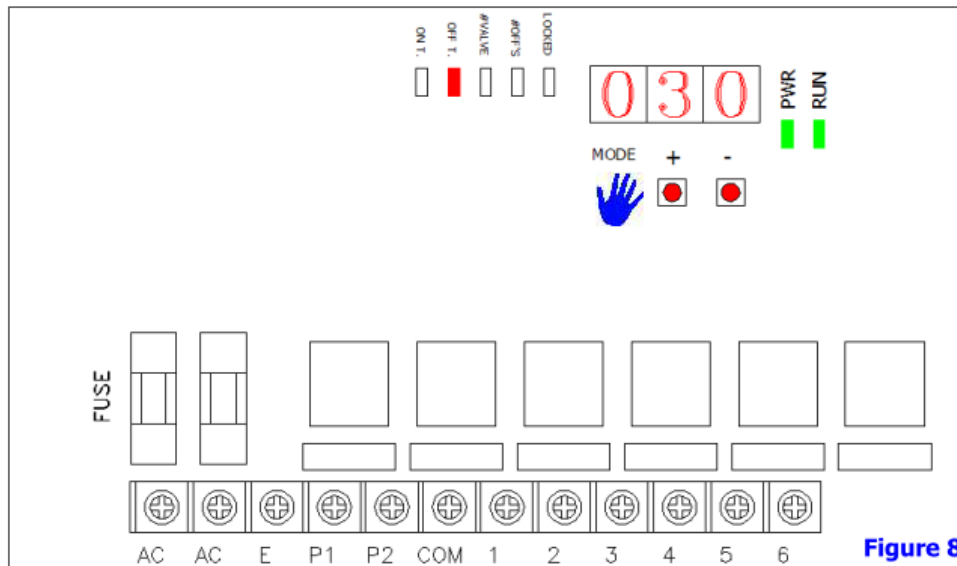

Figure 8
- Press MODE ( figure 8 ) . The "#VALVE" will flash up that represents it is in the valve quantities setting mode (pink triangle) (figure 9).